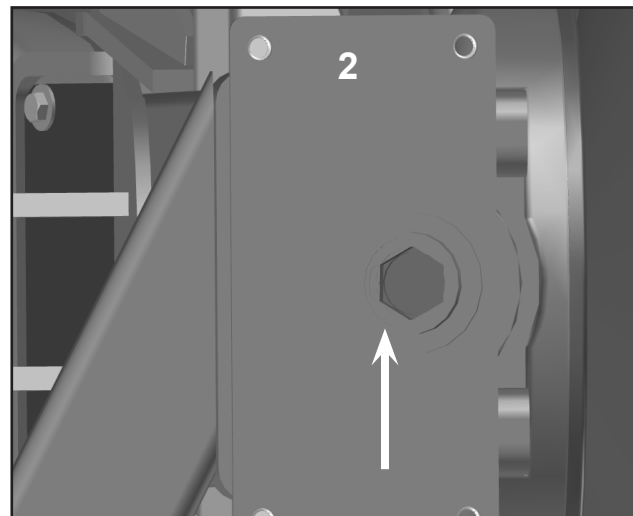

Figure 39
- 2) The profile of the outer hex shaft must be flat, so that it will fit back through the finger joint. (Figure 39)